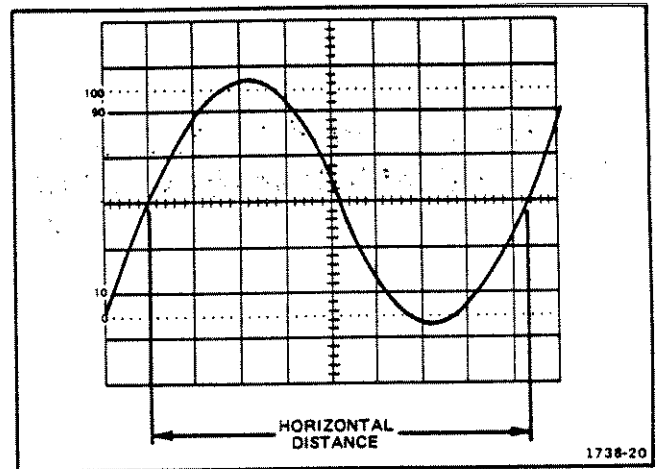

Figure 18. Time duration.
2. Set the TIME/DIV switch for a single event and position the display to place the time-measurement points on the center horizontal graticule line (see Figure 18).
EXAMPLE: The distance between the time-measurement points is 8.3 divisions (see Figure 18), and the TIME/DIV switch is set to 2 ms. No magnification is used.
EXAMPLE: The signal shown in Figure 18 has a time duration of 16.6 milliseconds.